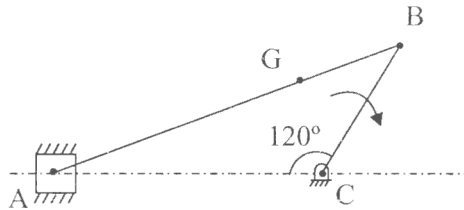

Fig. 3
- (d) An engine mechanism shown in Fig. 3 has a crank length of 0.1 m and connecting rod 0.3 m long with centre of gravity G, 0.1 m from end B. The crankshaft has a speed of 75 rad/sec and an angular acceleration of 1200 rad/sec2. Find acceleration of point G and angular acceleration of connecting rod.